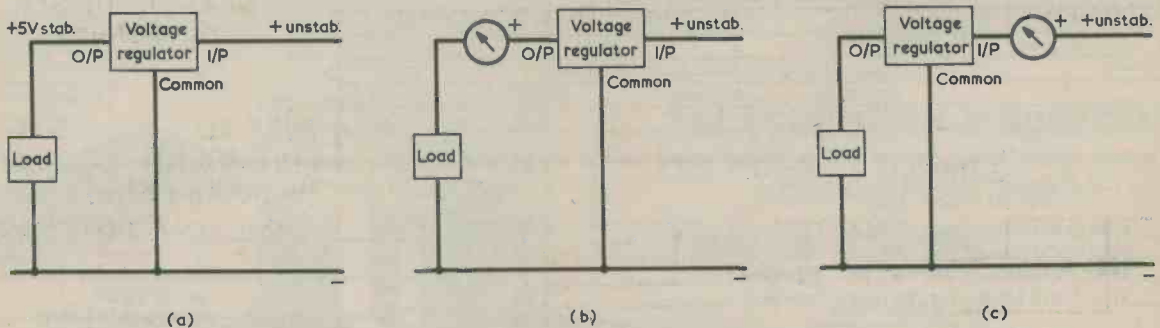

Fig.1(a). The normal method of applying a stabilized voltage of 5 volts to t.t.l. or microprocessor loads.
T.T.L. circuits and micro-processors require a stabilized 5 volt power supply and the common practice is to employ a monolithic voltage regulator, as shown in Fig. 1(a). The regulator produces a highly stable output voltage at a nominal level of 5 volts, and at a very low impedance. The circuit powered by the regulator is shown in Fig. 1(a) as a load.
In many cases it is desirable that a check be maintained on load current, and Fig.1(b) shows a current-reading meter inserted between the regulator output and the load to carry out
A possible alternative approach to measuring load current is to insert the current-reading meter between the unstabilized supply voltage and the input of the regulator, as illustrated in Fig.1(c). The meter will now indicate the load current plus the current required in the regulator i.e. to maintain the regulated output.
perfectly adequate measure of regulator output current for most purposes likely to be envisaged. In consequence, the basic circuit of Fig. 1(c) can be employed to check load current whilst still applying a regulated voltage at low impedance to the load. The unstabilized voltage should be sufficiently high to ensure that the regulator input voltage is at least 2 volts higher than the stabilized output voltage, taking into account any voltage dropped in the current-reading meter.